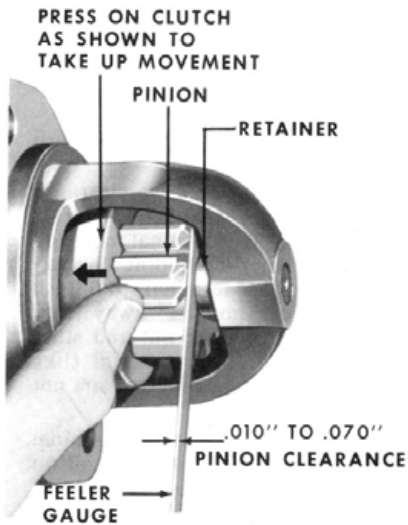

Figure 14—Checking pinion clearance. (Drive shown in Figure 2.)
5. Measure the distance between pinion and retainer (Figure 14).